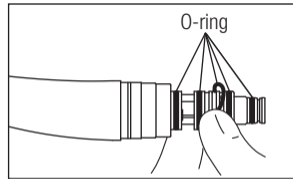

Fig. 12
- 2) Gently remove each O-ring by hand (Fig. 12).